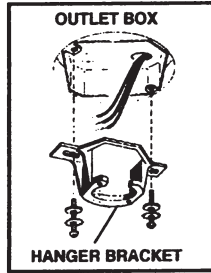

FIG. 5
**Step 1.** Secure the hanger bracket to the ceiling outlet box using screws provided with the outlet box and lock washers and flat washers included with the fan. (Fig. 5)